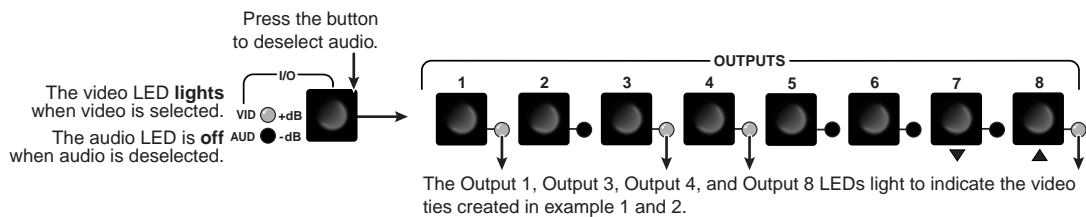

Figure 3-21 — Deselect audio to view video only
- Press and release the I/O button (figure 3-21).